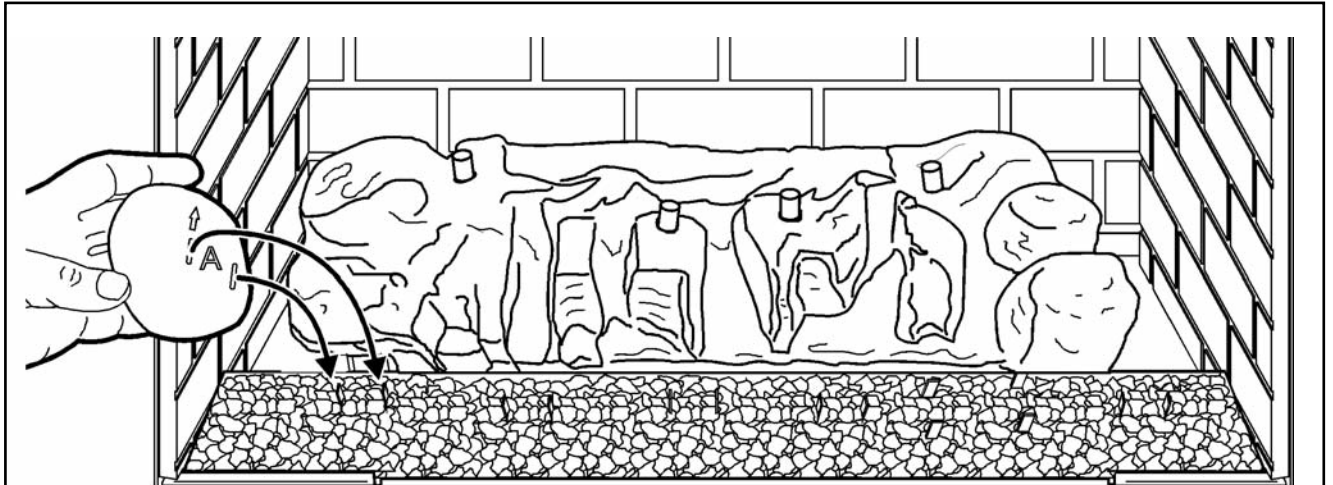

Figure 4. Fitting pebble 'A'
4. Hold pebble 'A' as in figure 4 so that the arrow points towards the rear of the fire. The gravel tray has metal location tags. Locate the slots in the base of pebble 'A' onto the two location tags on the left hand side of the fire.